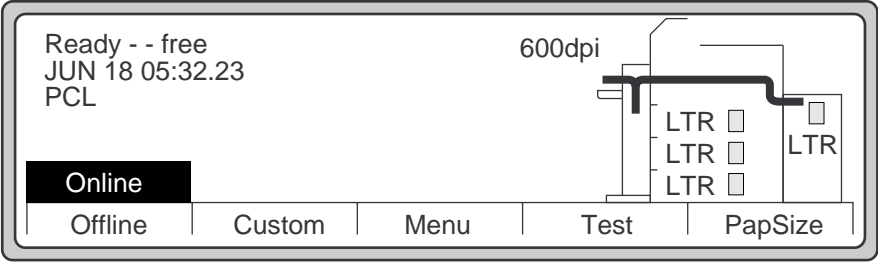

Figure 4-31 Main Screen
- 1. Press the **Menu** button on the Main Screen. See Figure 4-31.